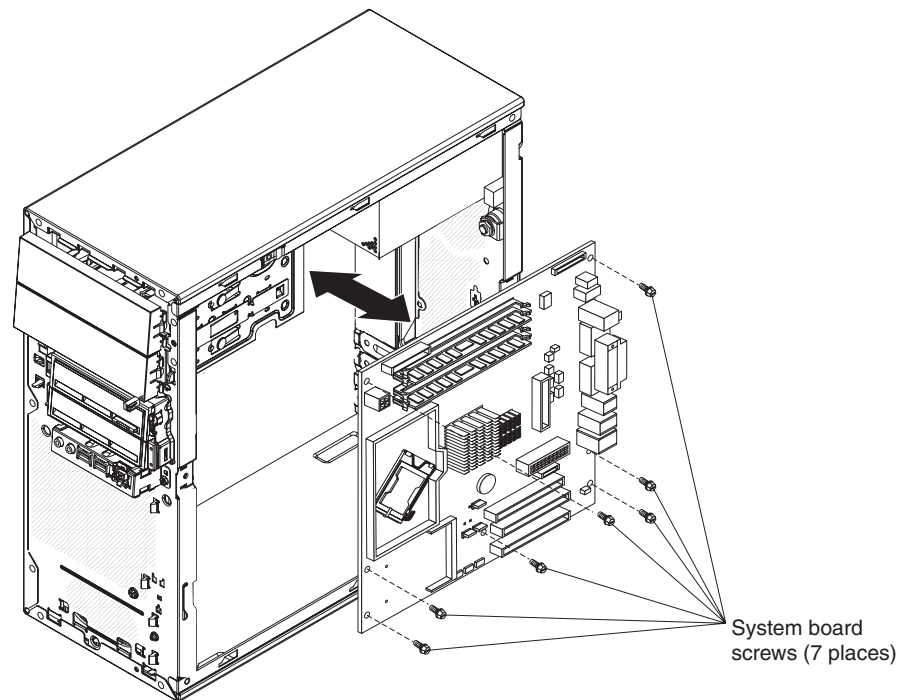

Figure 55. Installing the system board
2. Install the seven screws that secure the system board (see Figure 55).